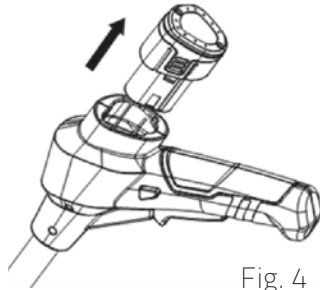
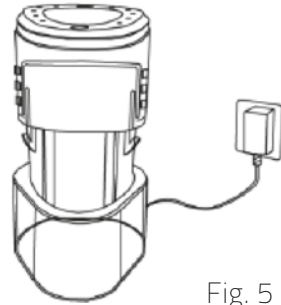

Fig. 4
Fig. 5
Charge the battery (Fig. 4, Fig. 5)
1. Remove the battery from the device. Press the release buttons on both sides of battery, meanwhile take it out as arrow direction in Fig.4.
2. Insert the battery into the charger as show in Fig.5
3. Connect the charger to the power supply. (Fig.5)